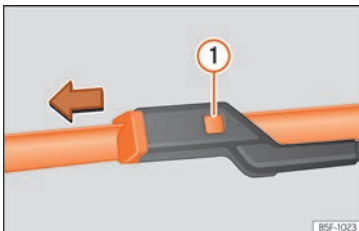

Fig. 85 Changing the windscreen wiper blades
- Press and hold release button » Fig. 85 ① and pull gently on the wiper blade in the direction of the arrow.